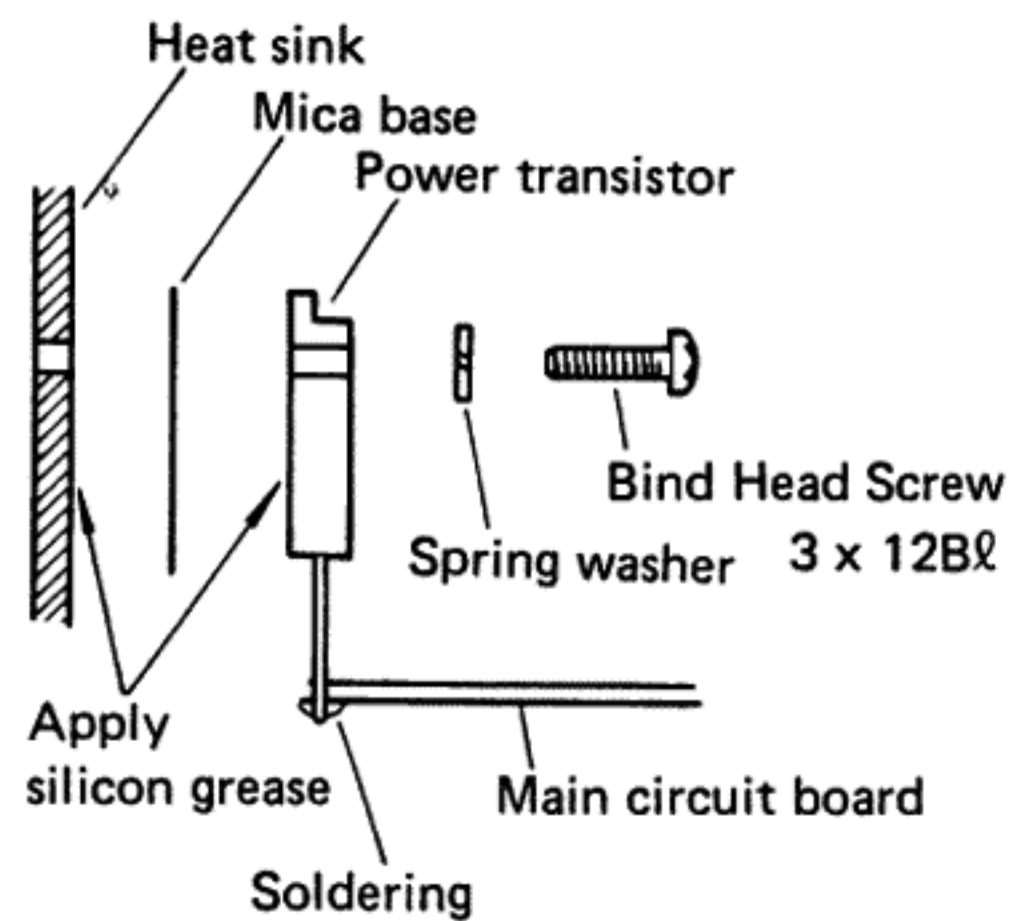

Fig. 13
- \* When mounting the power transistors, install a mica base between the heat sink and transistors so that the heat sink will not touch the case of the power transistor. Apply silicon grease to both sides of the mica base so that heat coupling between power transistors and the heat sink will be efficient. (Fig. 13)
- Replace the drive transistors as shown in Fig. 13. Use the isolation bushing as shown in Fig. 14 when mounting the drive transistors.